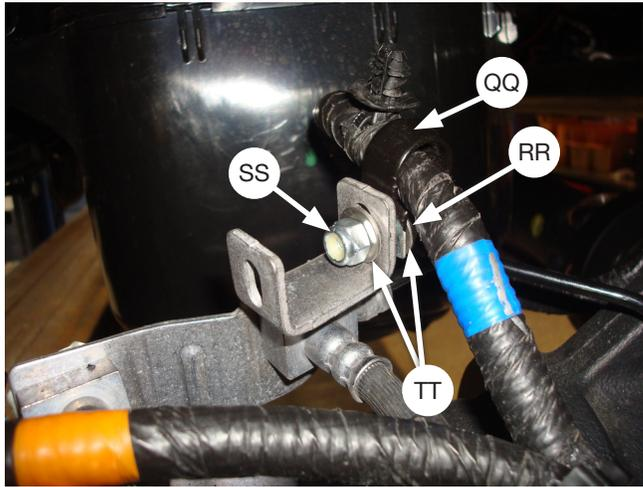
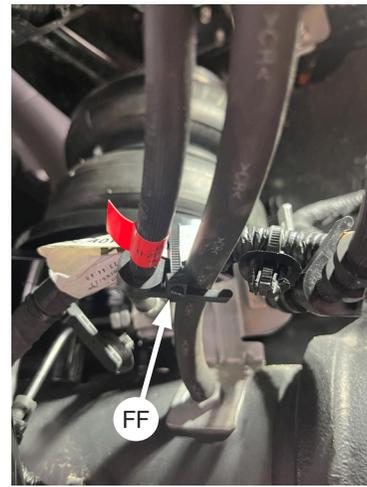

Fig. 30
Fig. 31
4. Install the P-clamp (QQ) around the right ABS harness and attach the P-clamp to the inside hole on the bracket section that was just bent (Fig. 30) using the 1/4-20 x 3/4" hex head bolt (RR), 2 flat washers (TT) and a lock nut (SS). Zip tie the parking brake harness to the brake line coupler, as shown in Figure 31.